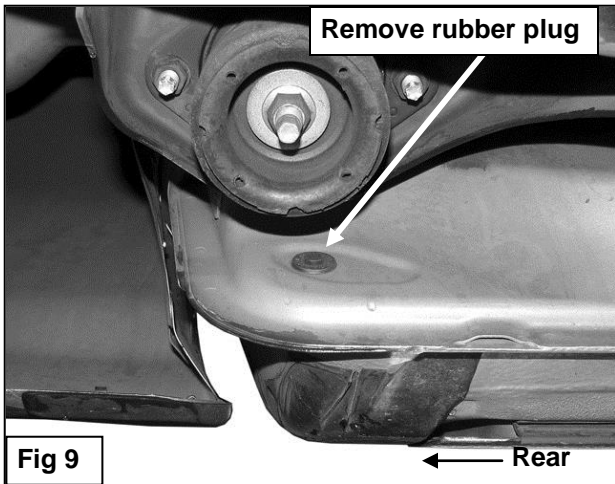
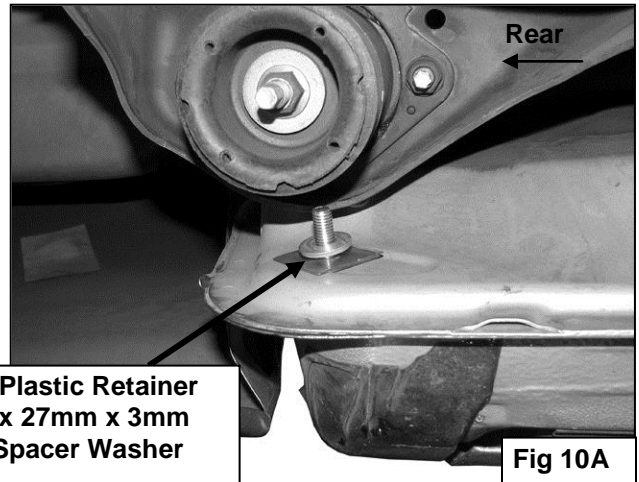

Fig 9
Fig 10A
6. Move to the very end of the cab. Locate and remove the rubber plug in the side of the inner body panel, **(Figure 9)**. Select (1) 10mm Bolt Plate and (1) Plastic Retainer, **(Figure 10B)**. Insert the Bolt Plate into the hole and thread the Plastic Retainer down onto the Bolt Plate until it is tight against the body panel, **(Figure 10A)**. **NOTE:** The Plastic Retainer is designed to prevent the Bolt Plate from falling into the body panel and to aid Support Bracket installation. Select (1) 10mm x 27mm Thick Flat Spacer Washer and slide it onto the threaded end of the Bolt Plate over the Retainer, **(Figure 10A)**. Next, secure the driver side Rear Support Bracket to the Bolt Plate with (1) 10mm x 30mm x 2.5mm Flat Washer, (1) 10mm Lock Washer and (1) 10mm Hex Nut(GOLDEN), **(Figure 11)**. Snug but do not fully tighten hardware at this time.